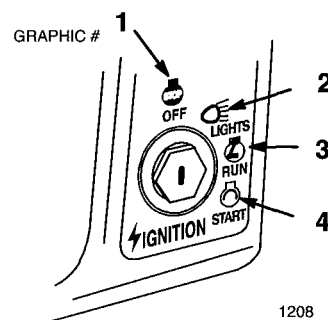

Figure 6
7. Turn the ignition key clockwise and hold it in the “START” position (Fig. 6). When the engine starts, release the key.